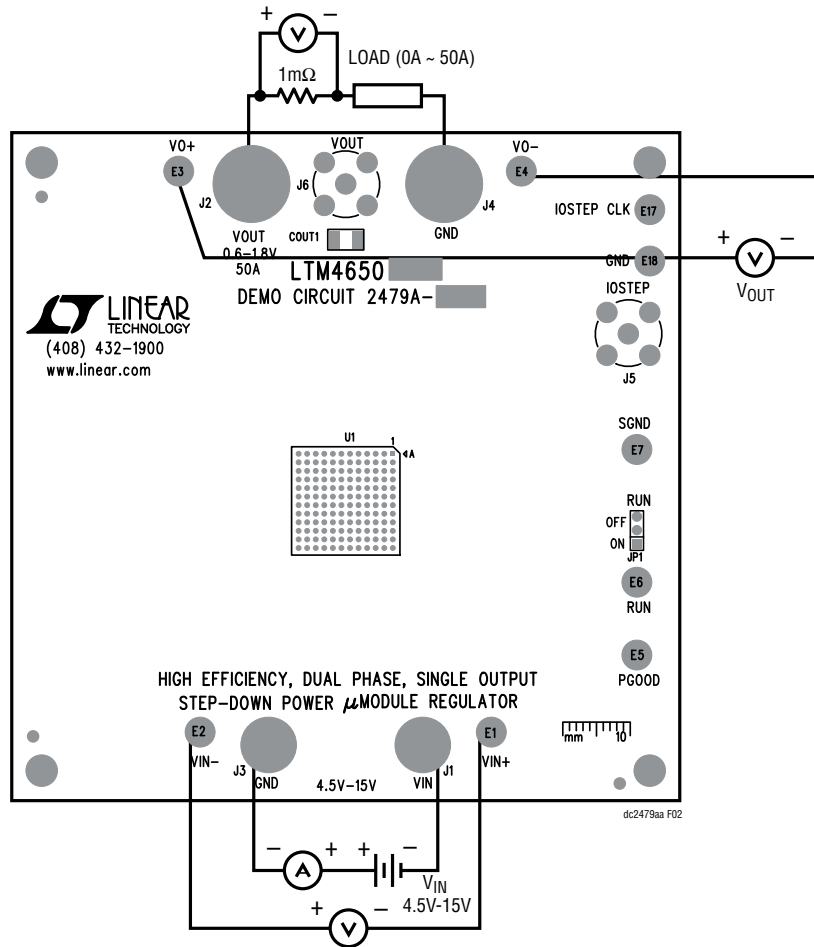

Figure 2. Test Setup of DC2479A-A
1. With power off, connect the input power supply, load and meters as shown in Figure 2. Preset the load to 0A and V_{IN} supply to 12V.